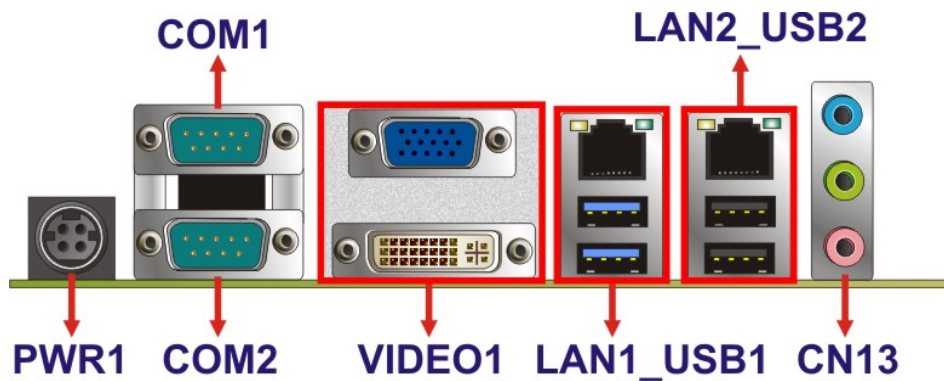

Figure 3-29: External Peripheral Interface Connector
CN Location: See **Figure 3-29**
See Figure 3-29
- CN Location: See Figure 3-29
CN Location:	See Figure 3-29